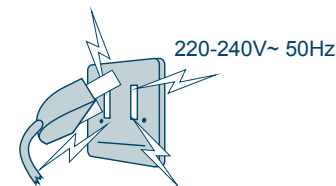

Fig.4
- 1.Please use the normal power supply voltage 220-240V~ 50Hz and the independent 2.5A standard socket complied with national standard to guarantee the safety(See Fig.4).